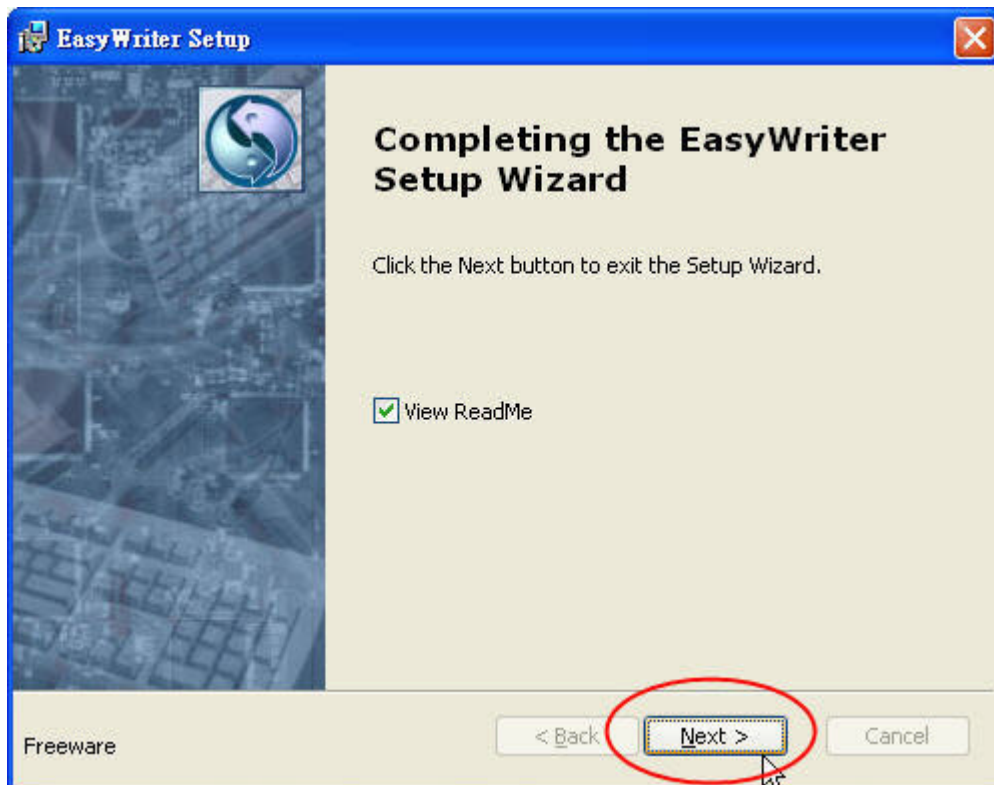

Fig. 1.4
1.6 Press “ Next “ button to continue , see Fig 1.4